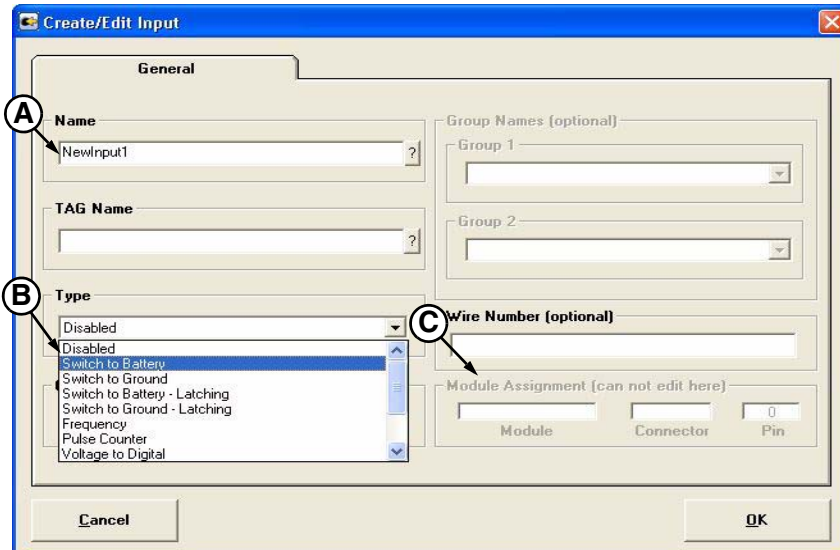

Figure 9
6. The **Create/Edit Input** window will open. Enter data in the appropriate boxes. In this case enter a *Name* of “NewInput1” (**Figure 9, A**) and select “Switch to Battery” in the *Type* dropdown menu (**Figure 9, B**). The *TAG Name* will generate automatically after clicking *OK* if nothing is entered in the text box. The *Module Assignment* box (**Figure 9, C**) is read-only data and will contain data after the *Input* has been assigned to a *Module*. See *Assign Inputs and Outputs* on page 15.